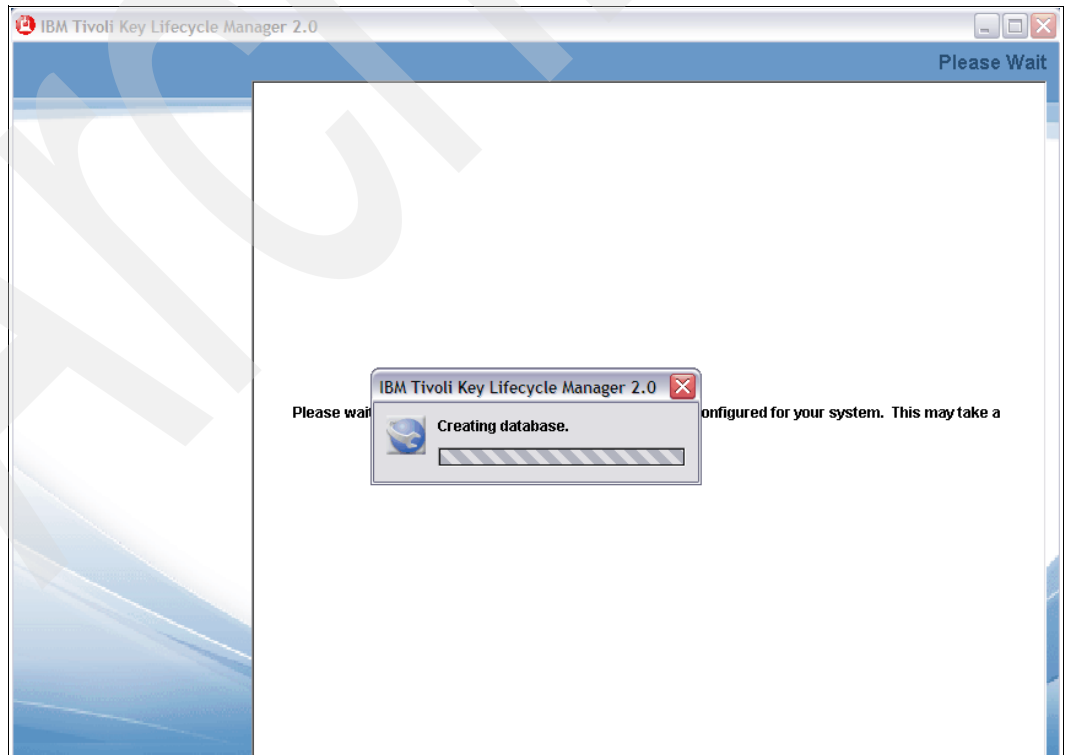

Figure 6-8 TKLM\_v2\_create\_DB
- The installation process continues with creation of a database (Figure 6-8).